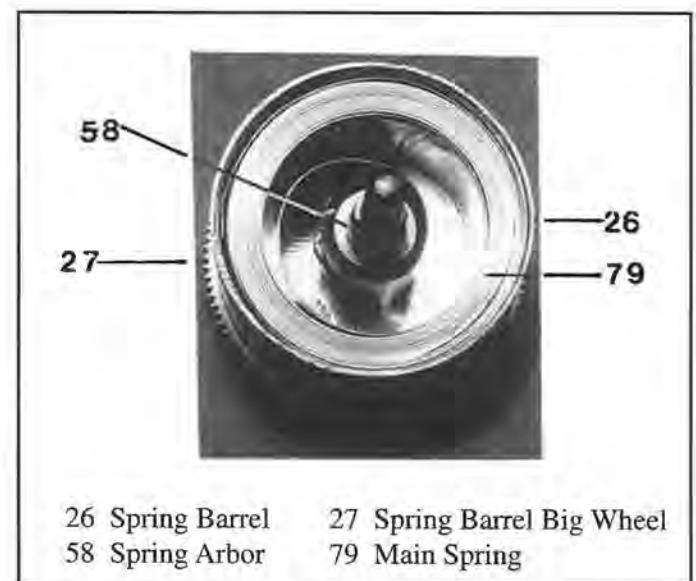

Figure 10.1. Spring barrel with cap removed.
**SPRING WITHOUT AN ADEQUATE HEAVY-DUTY SPRING WINDER. (SEE FIGURE 10.1.)**